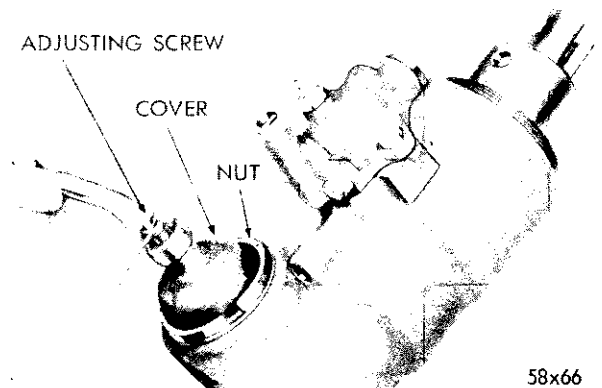

Fig. 44—Steering Gear Shaft Adjustment
(1) Remove the oil reservoir cover and fill the reservoir to the bottom of the filler neck opening.
(2) Connect the test hoses, Tool C-3211 and Tool C-3318, with the proper adapters to the hydraulic pump on the car with pressure gauge Tool C-3309B installed between the pump and the steering gear to register pressures.
(3) Start the engine and operate at idle to bring the steering gear to normal operating temperature.
(4) Expel all air from the unit by turning the worm shaft several times to the right and then to the left.
(5) Refill the reservoir before proceeding with the following test and adjustments on bench:
b. With the gear shaft on center, tighten the gear shaft adjusting screw until backlash just disappears. Tighten $1\frac{1}{4}$ turn from this position and while holding the adjusting screw in this position, tighten the lock nut (Fig. 44).